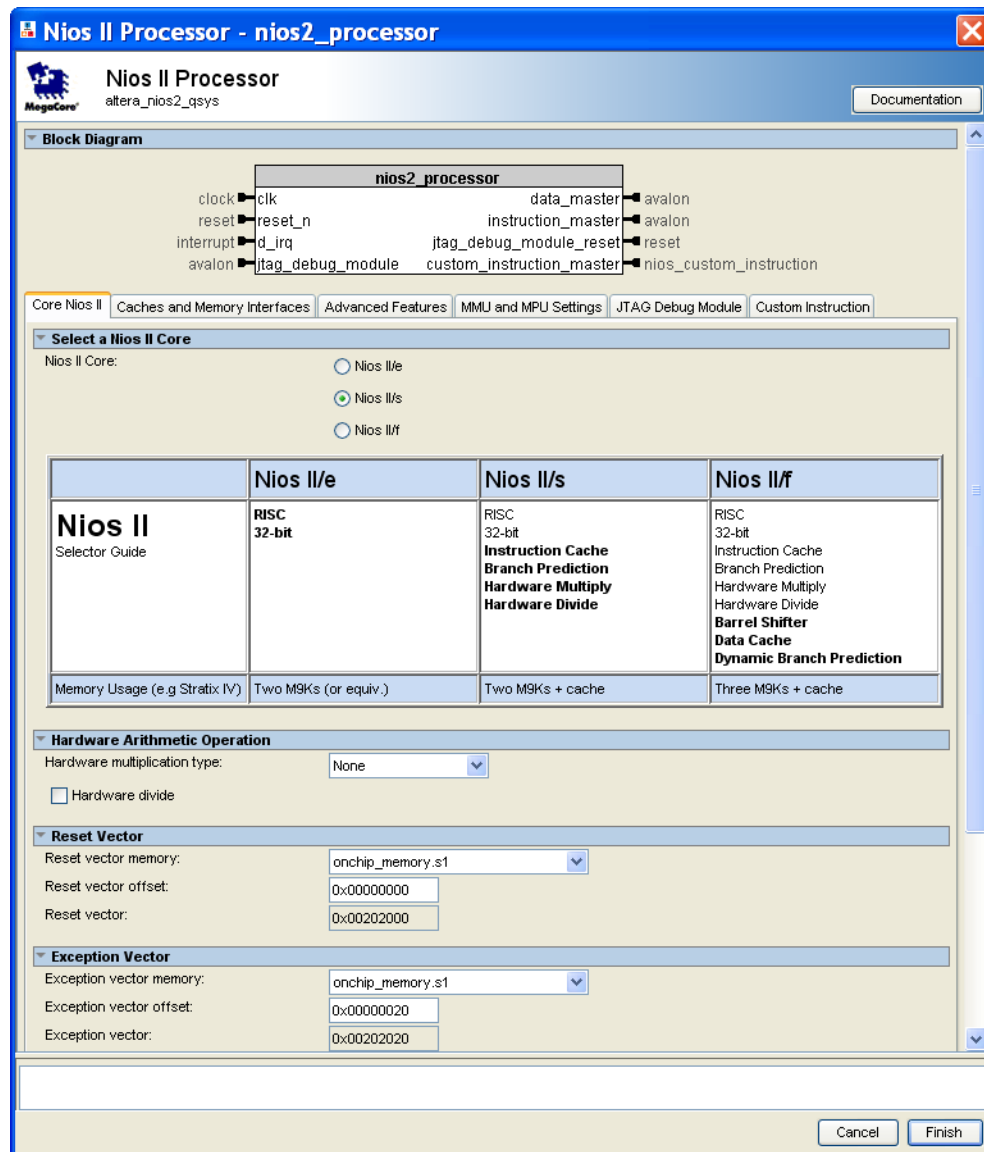

Figure 4: The Nios II processor specified in the Qsys tool.
5. Edit the *nios2_processor* setting so both the reset vector and exception vector use *onchip_memory*. The processor should now be specified as shown in Figure 4.